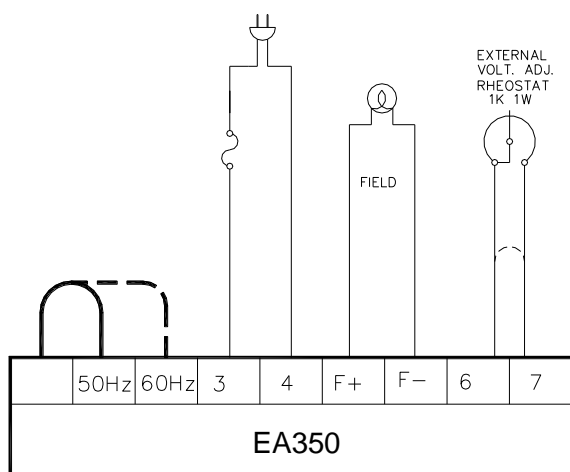

Figure 4 Operational Test Diagram
1. Connect the Analog Voltage Controller as shown in the operational test diagram of Figure 4. Do not apply power. Ensure that the light bulbs are rated for 120 volts and less than 100 watts. Figure 4. Operational Test Diagram.